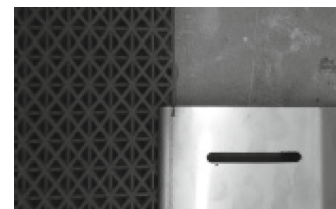

Figure 1
- Offset the profile on the tile to have a visual alignment between the edge of the tile and the notch (fig.1),